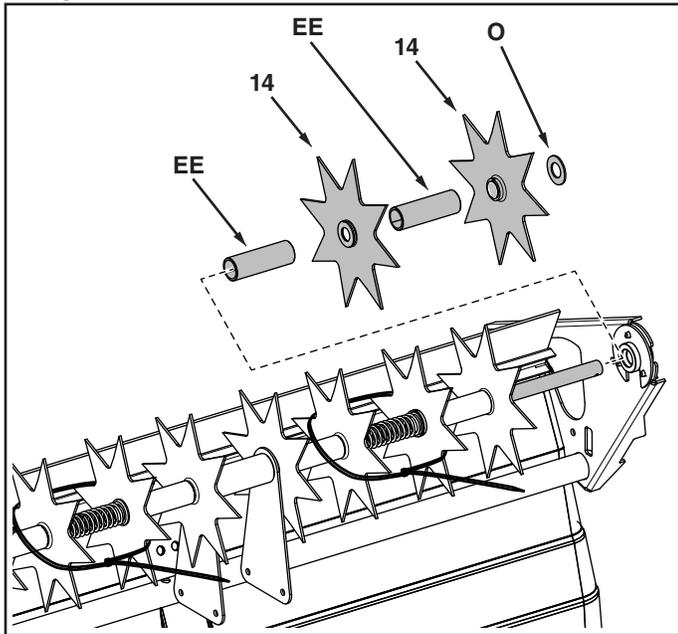

FIGURE 13
16. Assemble a 2.9" spacer (EE) onto the axle. See figure 13.
17. Assemble two spike disks (14), a 2.9" spacer (EE) and a 5/8" washer (O) onto the axle. The flat side of the disks should face away from the spacer. See figure 13.